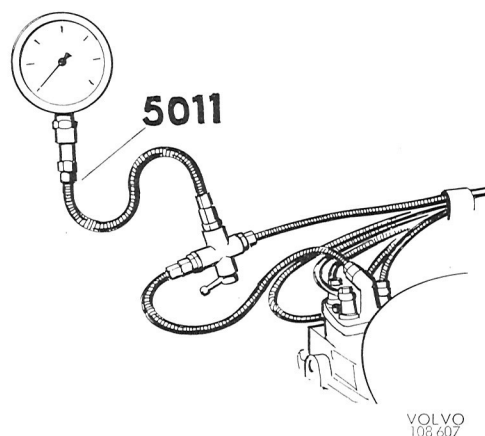
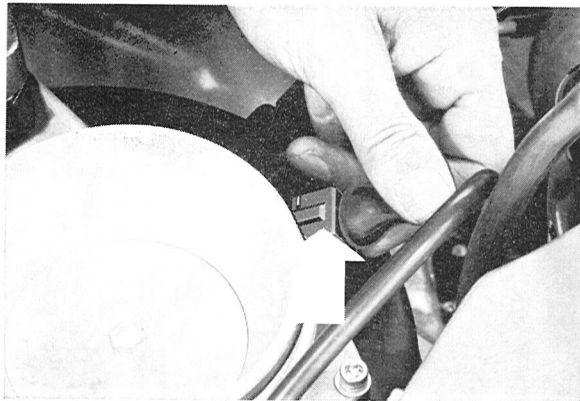

Fig. 1-27. Connection of pressure gauge
Fig. 1-28. Removing wire
- \*16. Connect pressure gauge 5011 to the fuel distributor and the line to the control pressure regulator, see Fig. 1-27. Turn the valve lever to position 1 (pointing towards the fuel distributor) to test the line pressure. Switch on the ignition. Start the fuel pump by disconnecting the wires at the air flow sensor terminal, see Fig. 1-28.